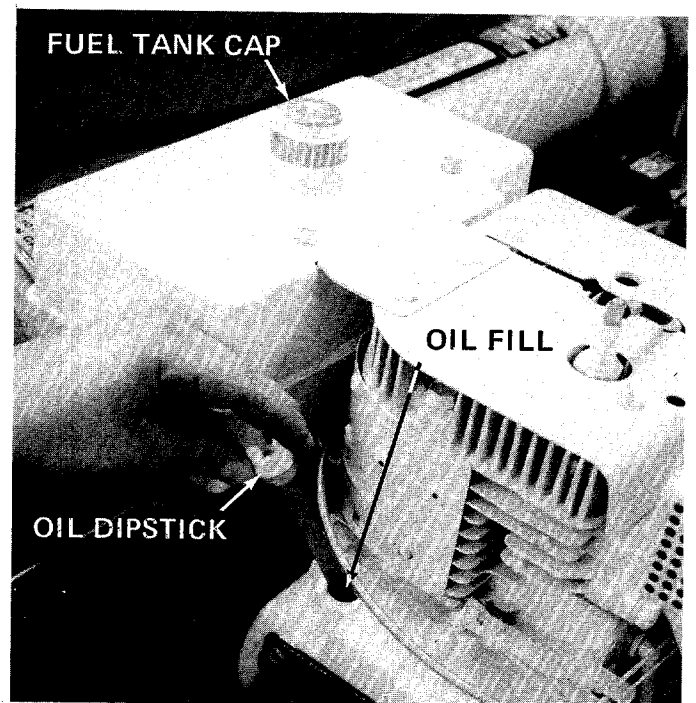

FIGURE 6
1. Fill oil sump with approximately 1-1/2 pints of SAE 30 oil, or to full mark on dipstick. See Figure 6. Use MS classification oil. Do not use oils marked only MM or ML or unmarked. Above 32°, use SAE 30; below 32° use SAE 10W-30. These recommendations must be followed for best performance and long life.